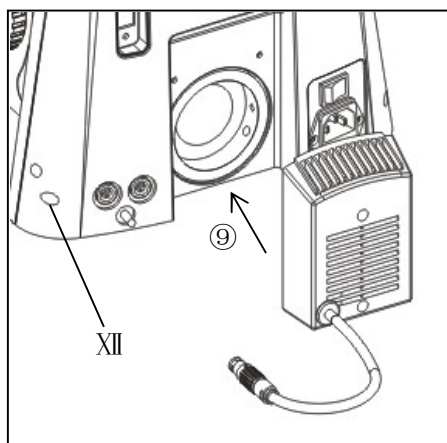

Figure 30
4-2-9 Install the light box (Figure 30)
First insert the light box down the back of the frame base in the illustrated position in the sequence number ⑨ path in Figure30